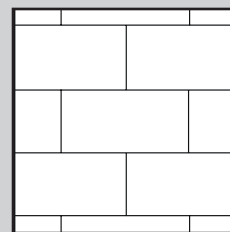

Fig. 3b
4. Start the second row by clicking the tongue into the groove holding the plank at an angle (approximately 30°), then tap the plank/tile firmly into the groove of the first row. Install the next plank/tile by easing the tongue and groove together on the long side (Fig. 3). Tiles and planks should be installed 'off-set' such that four corners never meet (Fig. 3a and Fig. 3b).